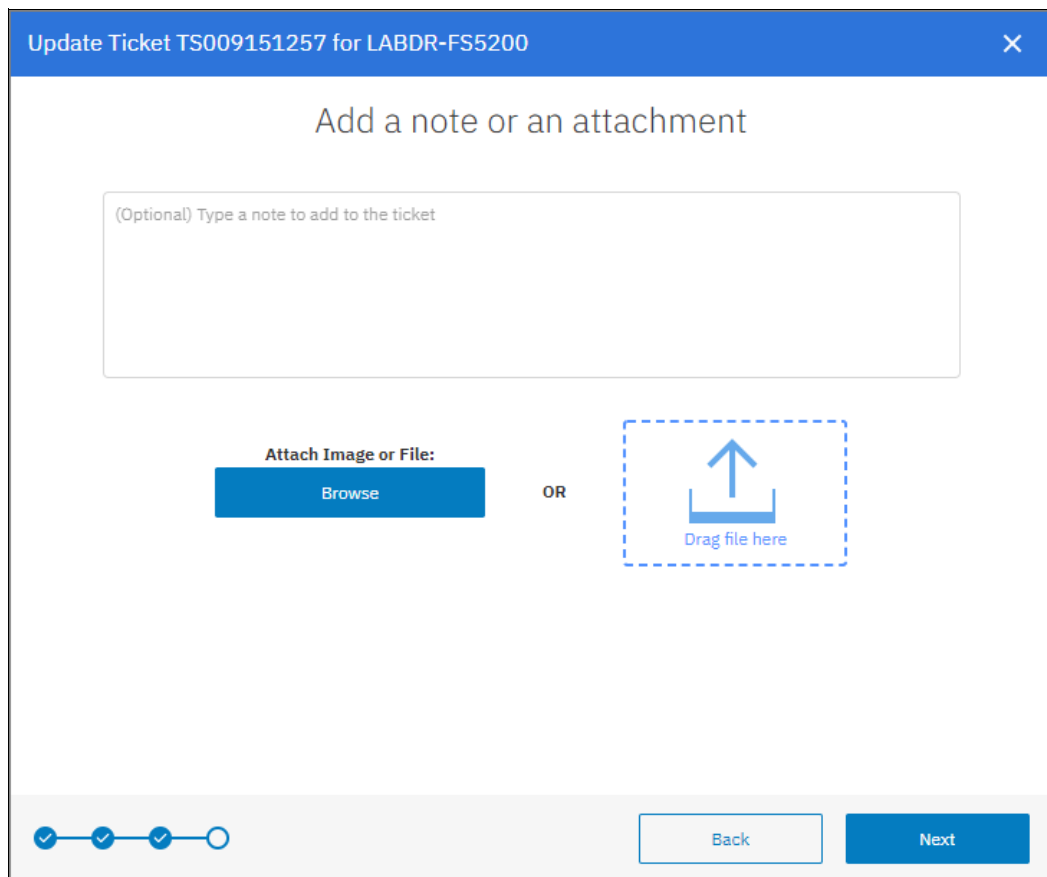

Figure 11-30 Add a note or attachment
- 4. After clicking **Next**, it is possible to provide more information in a text field, or upload more files, as shown in Figure 11-30.